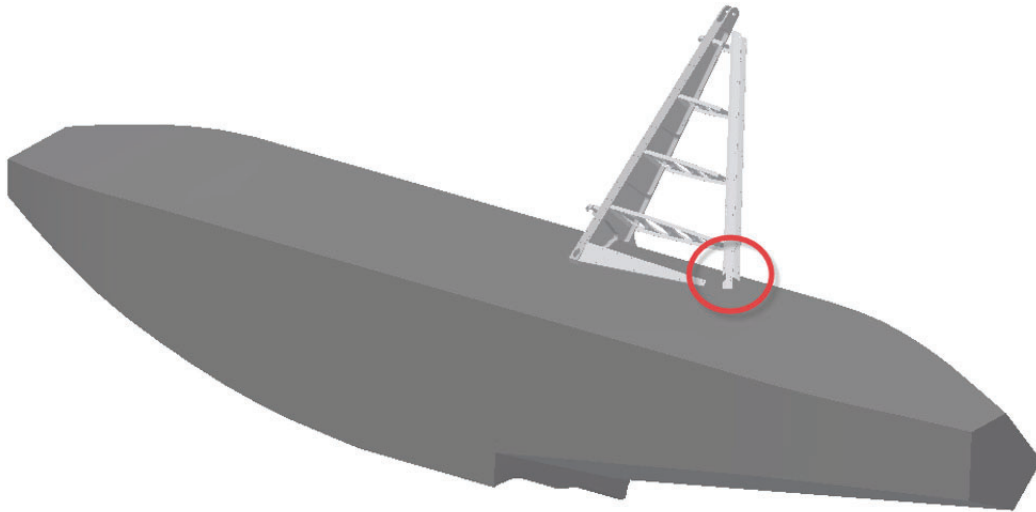
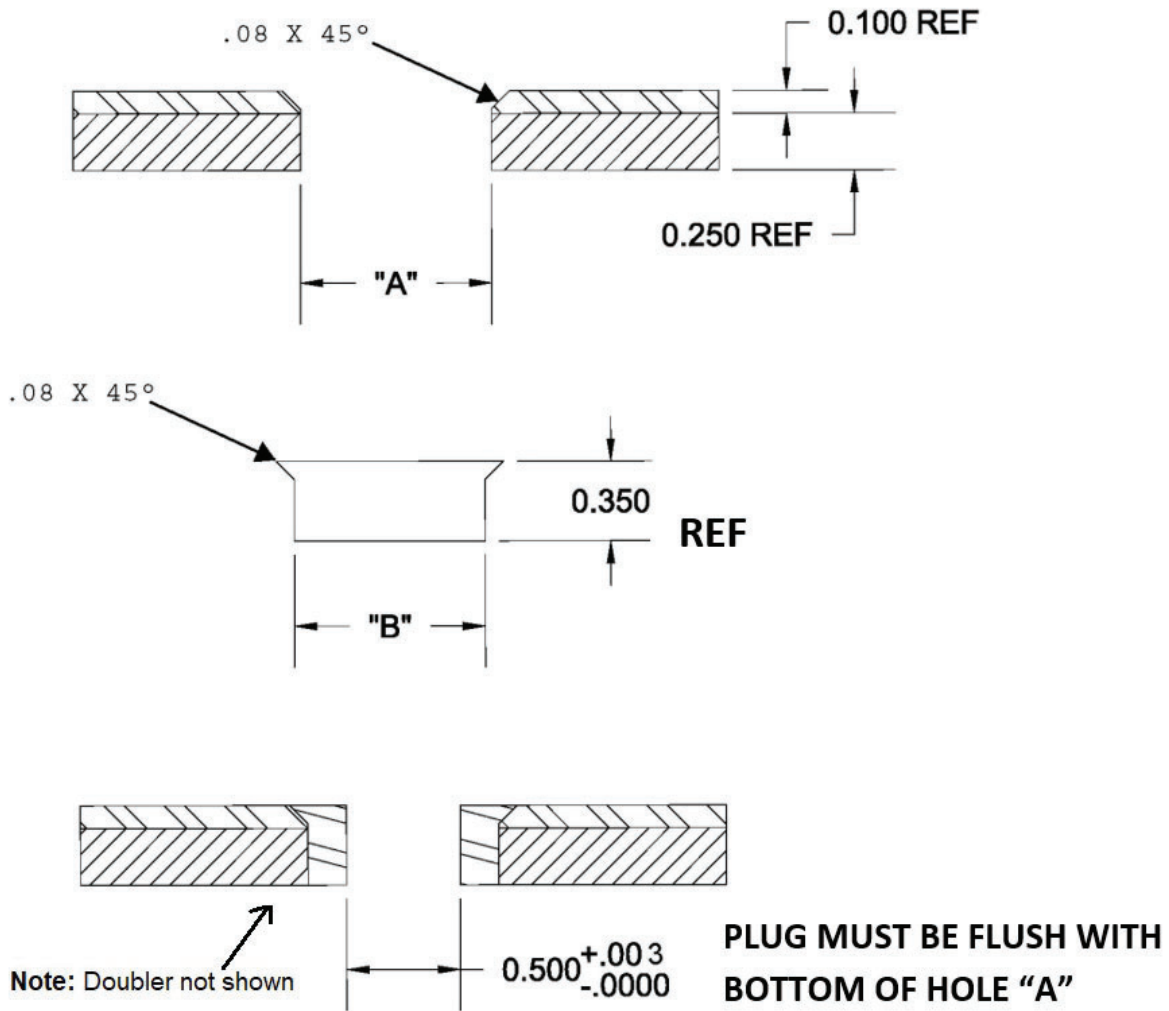

Figure 1 - Attachment location (Strut Fairings Removed)
Figure 2 - Hole and Plug Sizes
Note: Figure 1 shows the attachment location in question. Figure 2 shows hole and plug sizes for repair of float top deck and drag strut attach channel.
- c. Fabricate plug from 2024-351 as shown in Figure 2, diameter ("B") shall be +.0007" to +.0013" over diameter ("A") of hole created in Step 4.